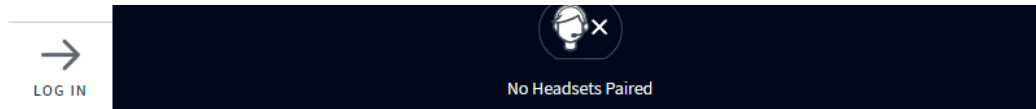
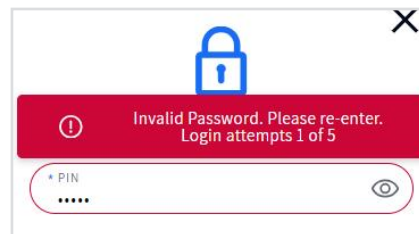

Fig. 1.26
Fig. 1.27
1. Tap LOG IN on the sidebar menu (Fig. 1.26). This opens a dialog box and prompts you for a PIN (Fig. 1.27). You are allowed five password attempts before being locked out for five minutes. The red prompt above the PIN field indicates an invalid password and the number of attempts.